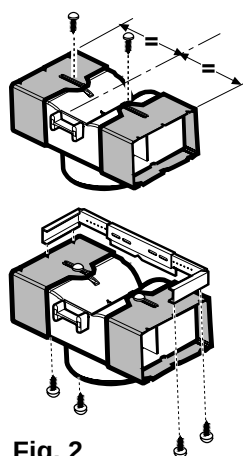

Fig. 2
- **Assemble the deflector (3 parts):** the three parts must be fixed with 2 screws $\varnothing$ 3.5 13 mm, the extension of the deflector is adjustable and must correspond to the width of the chimney flue support, to which it must be fixed. Fix the deflector using 4 screws $\varnothing$ 2,9x6.5 mm. **Fig. 2**.